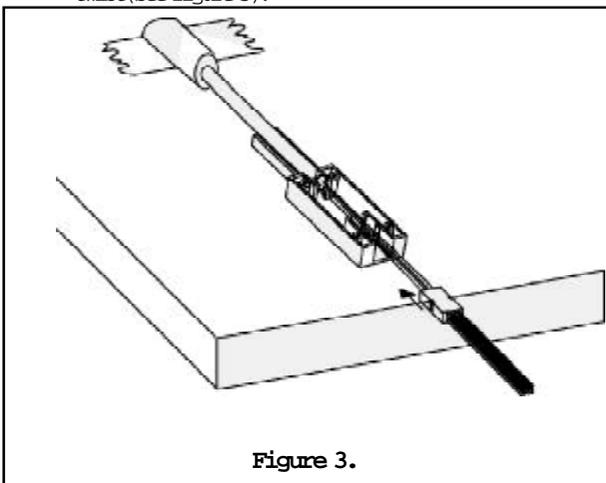

Figure 3.
7.2 Tape the terminal assembly in the verticle position 3 inches to the side of the splitter kit base (see figure 3).
7.9 Untape the terminal assembly and slide the assembly towards the splitter kit base while pulling the fibers from the end of the 900 micron tubing. if the fibers twist, rotate the terminal assembly in the opposite direction of the twist (see figure 3).